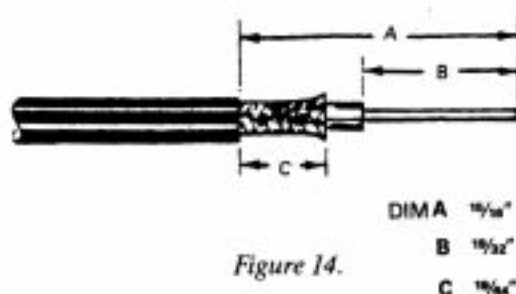

Figure 14.
Step 2. Prepare cable to strip dimensions per Figure 14, which is also marked on the hand tool.